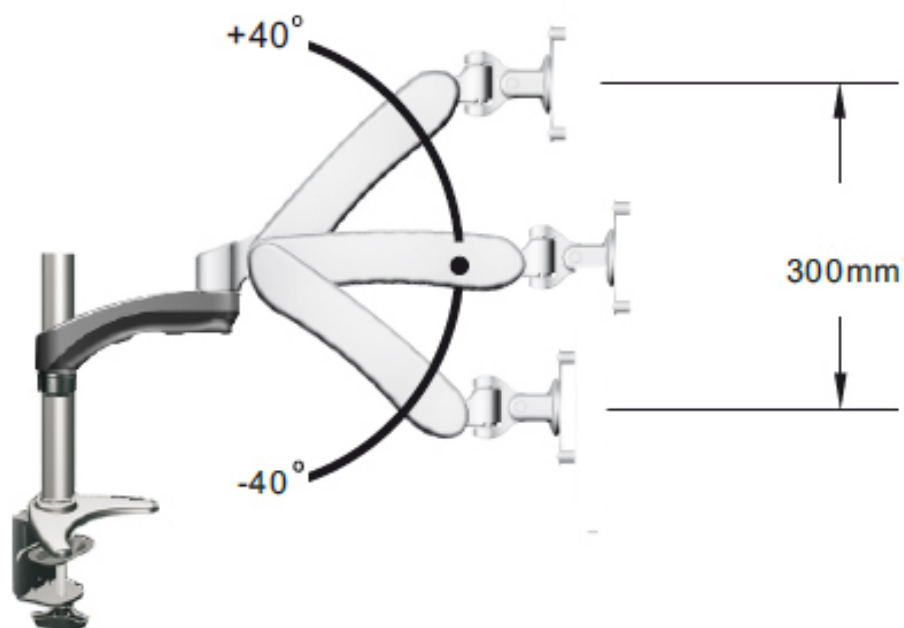
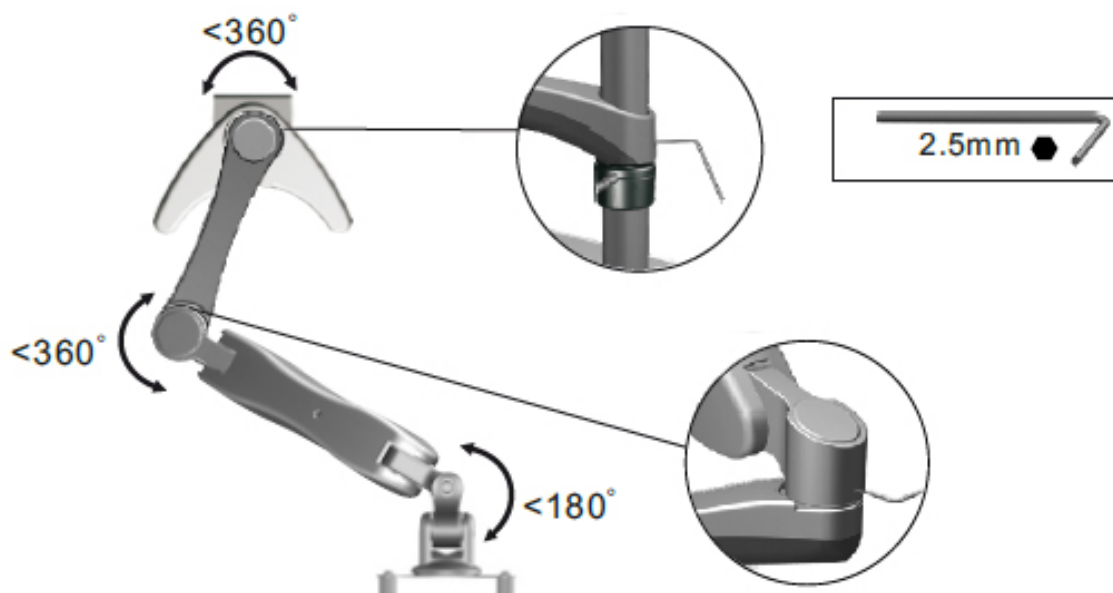

Figure 7
Figure 8
5. This production can be lift up and down as shown. (See Figure 7). If this product tends to automatically move to side, it may be required tension adjustment on the Articulating Arm to suit your microscope arm swing to side position. This can be done by using Hex Allen Wrench 2.5mm supplied. (See Figure 8).